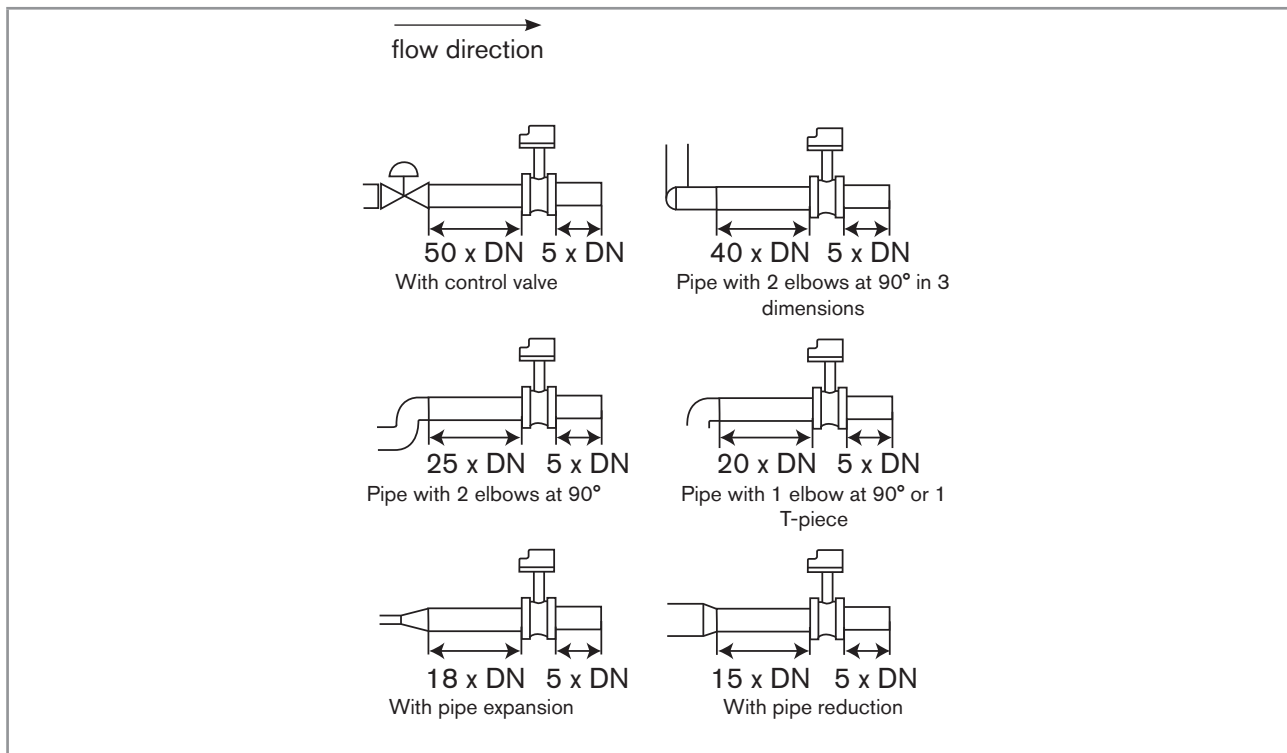

Fig. 10 : Upstream and downstream distances depending on the design of the pipes.
- the upstream and downstream distances are respected according to the design of the pipes, see Fig. 10 and norm EN ISO 5167-1,
- the upstream and downstream distances are respected according to the design of the pipes, see Fig. 10, chap. 7.2.1 and norm EN ISO 5167-1,